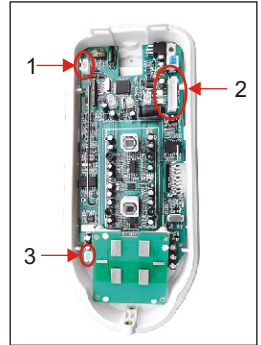

Figure 8
The rechargeable battery is connected to the connector 3 at figure 8.
Connect the power to connector 1 (Fig.8)
- Drive the cables through the internal guides up to the connectors 1 (Fig. 8)